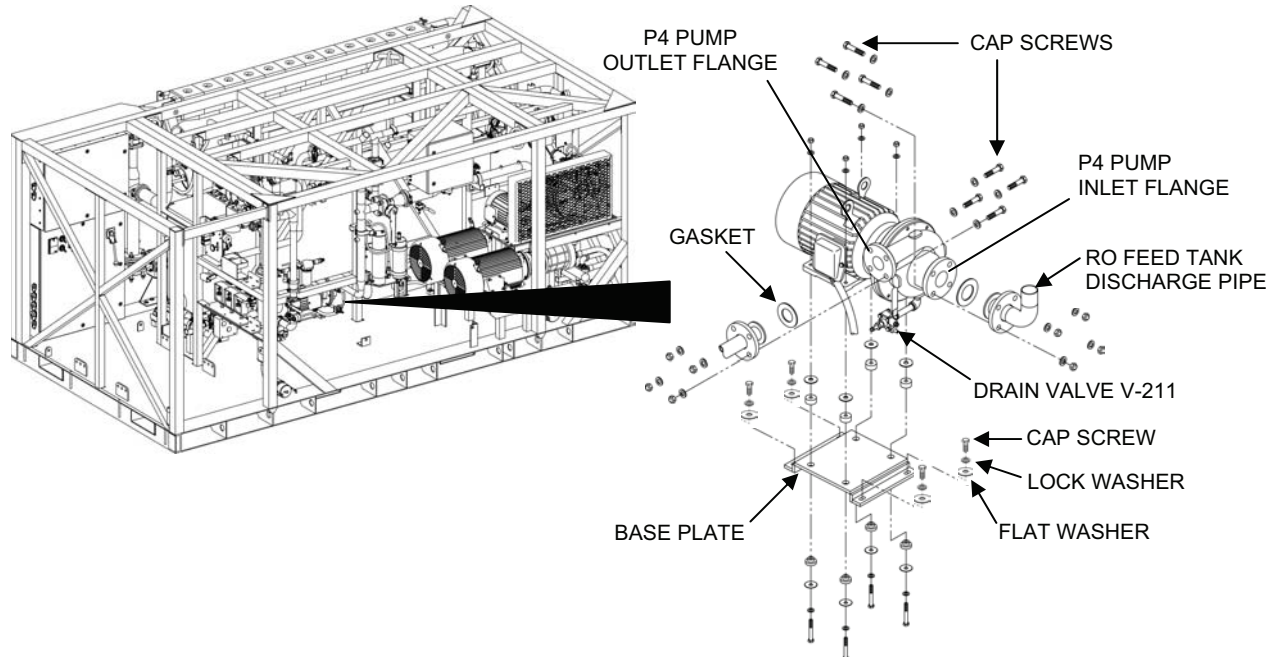

Figure 3. RO Feed Pump P4 Assembly Removal.
1. Remove the RO Feed Pump P-4 Assembly from the TWPS skid as follows (see Figure 3):
2. Install the new RO Feed Pump P-4 Assembly onto the TWPS skid as follows (see Figure 3):